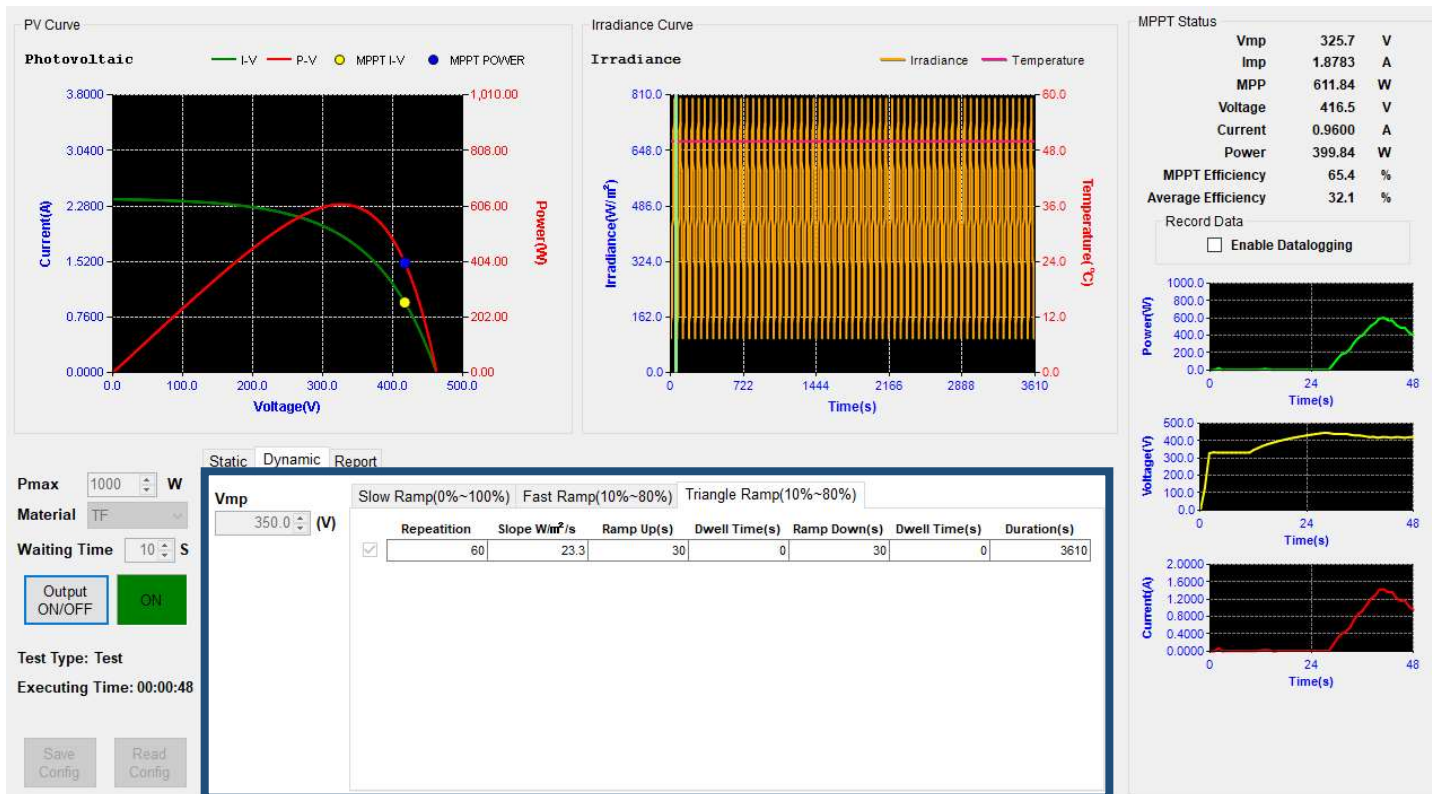

Figure 19- Dynamic simulation for Sandia
1. To create a dynamic simulation, the inputs are provided by the user as shown in Figure 19.
4. The values of Repetition (60), Slope (23.3), Ramp up (30), Dwell time (0), Ramp down (30), Dwell time (0) and Duration (3610) are specified.